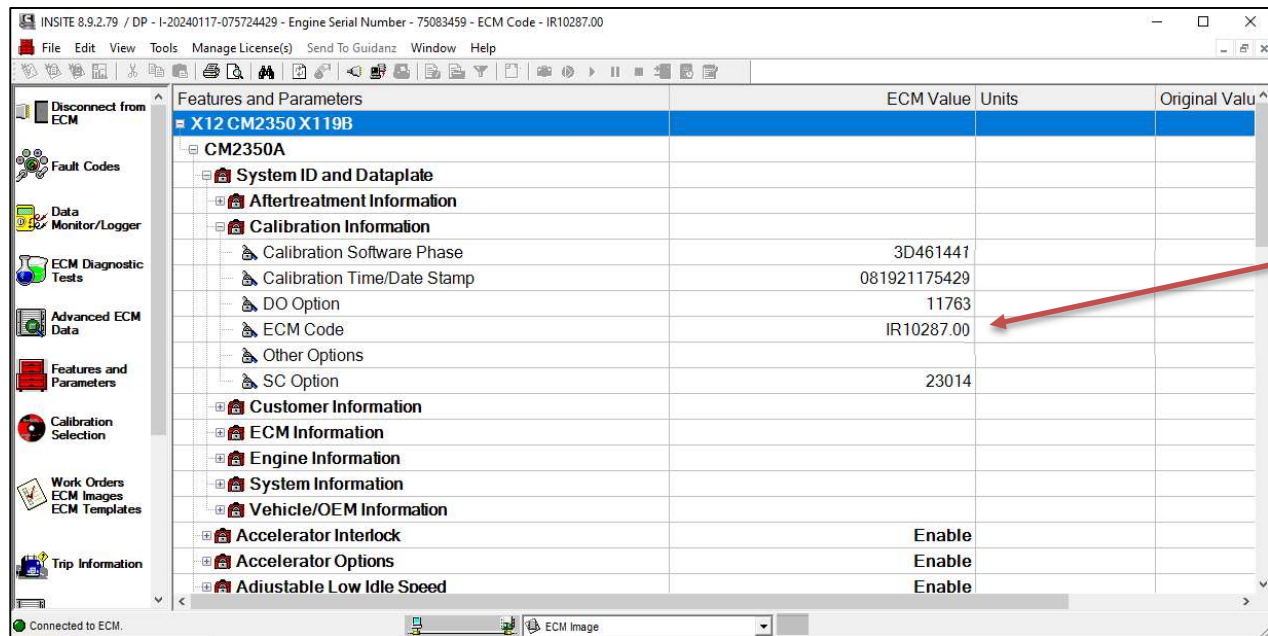

Figure 17
25. Using Cummins Insite Pro diagnostic software, connect to the engine and retrieve the current ECM calibration code installed. See figure 17.